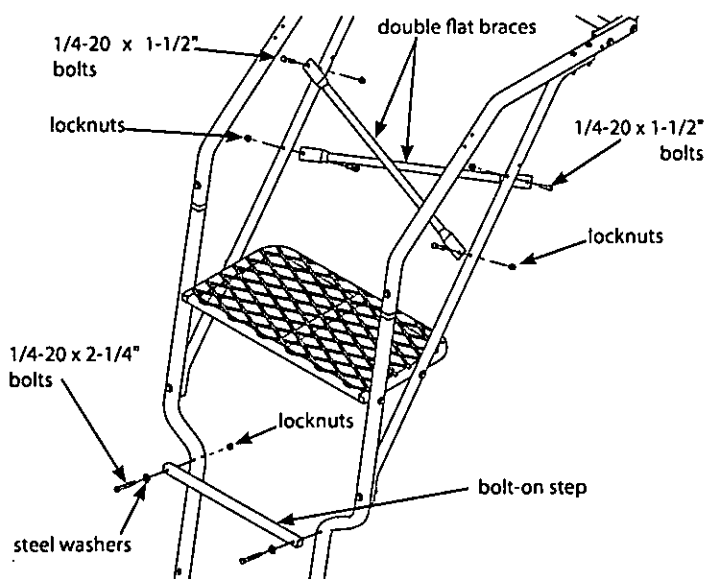

Figure 4
Attach the round tube, double flat braces (10377) to the upper ladder support tubes using (4) provided 1/4-20 x 1-1/2" bolts and locknuts. **SEE FIGURE 4.** One double flat brace should be positioned on each side of the upper ladder support tubes for clearance purposes.
6. Attach the bolt-on step (410034) to the front side of flared rails using (2) provided 1/4-20 x 2-1/4" bolts, locknuts and steel washers. **SEE FIGURE 4.**